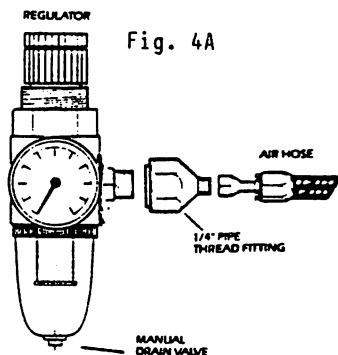

Fig. 4A
4. With tank pressurized and using teflon tape, connect 1/4" adapter fitting, air hose and air brush securely as shown in Fig. 4A.